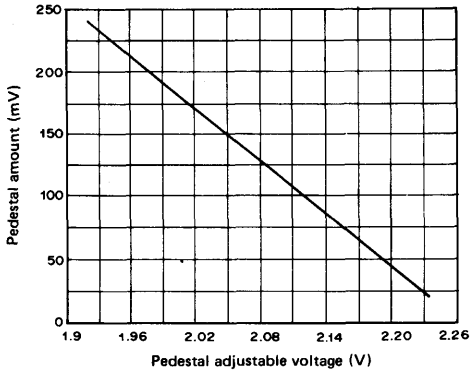

Fig. 13
- [12] Pedestal amount of G and R/By output sections vs Pedestal adjustment voltage (Fig. 13)